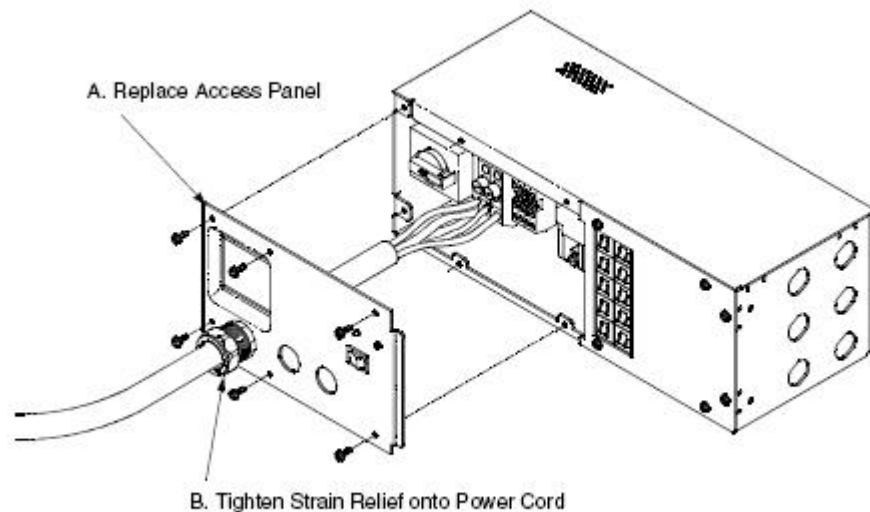

Figure 3-8 E1135C Power Cord Installation
- On the E1135C PDU is a 25.4mm (1in) hole to install a cable clamp and power cord. Use a power cord with a locking plug (one that cannot be easily pulled from its outlet) or hard-wire the system to the AC power. Customer is to provide both cable and strain relief (see Figure 3-8).